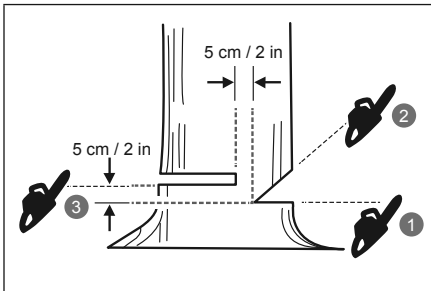

FIG. 28
1. Make the felling back cut at least 5 cm. / 2 in. higher than the horizontal notching cut. Keep the felling back cut parallel to the horizontal notching cut. Make the felling back cut so enough wood is left to act as a hinge. The hinge wood keeps the tree from twisting and falling in the wrong direction (Fig.28).